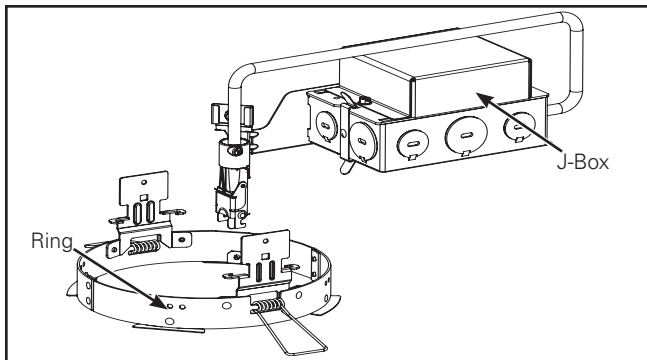

Figure 1.
1. Remove J-Box arm from mounting bar (Figure 1.).